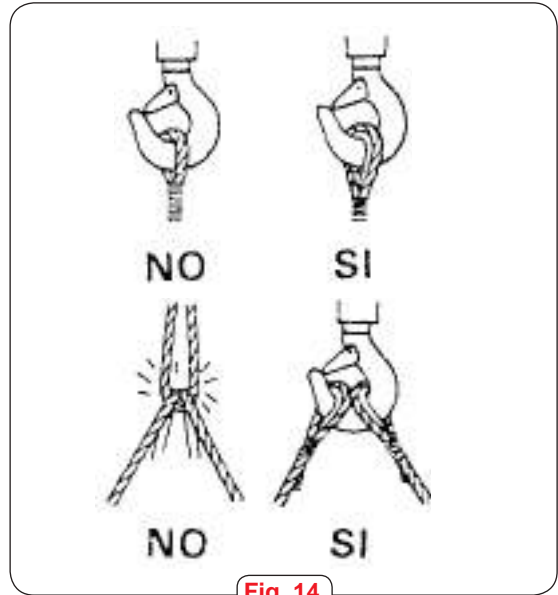

Fig. 14
- Fit cable and rope end rings with thimbles (fig. 14)